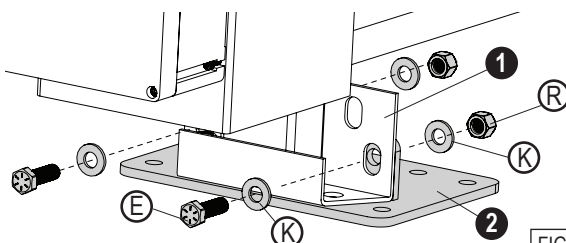

FIG. 111
- On each side of the gantry, align a **U-bolt mounting bracket (2)** with a **gantry bracket (1)**.
- Loosely fasten with **hex bolts (E)**, **washers (K)**, and **nylon lock nuts (R)** as shown in Figure 111.